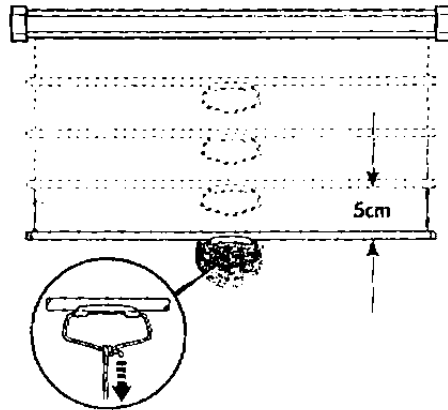

Fig. 4
2. Pull down the screen from the rope or from the handle only in a 90-degree down. (Fig. 4) Do not attempt to pull down the screen by the screen surface or touch the screen, as it will damage the screen and void the warranty.